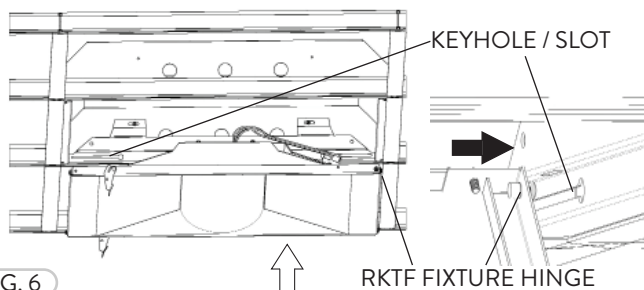

FIG. 6
- 4 Locate the RKTF Fixture Hinges into the keyholes of the End Brackets and slide into place along the slot (Fig 6).